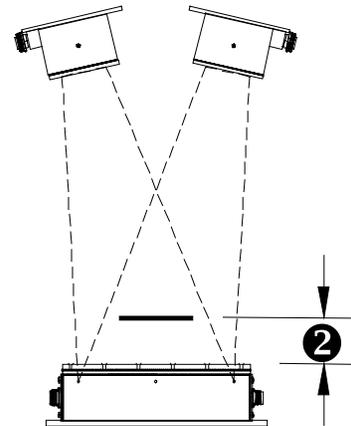

Figure G.4-5: Product Passline
Single-sensor installation of 10XBR-Series sensors is relatively straight forward. The emitter should be placed close the strip at a lower-end minimum product passline no greater than six inches [10.2cm], with two inches [50.8mm] to four inches [102mm] lower-end product passline optimal {Dimension ② in Figure G.4-5}. The receivers should be mounted directly over the emitter-end LEDs.